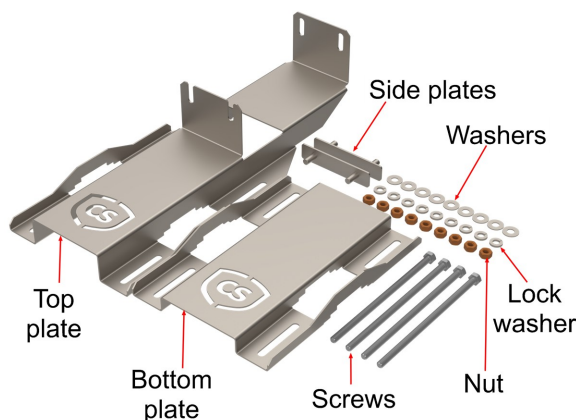
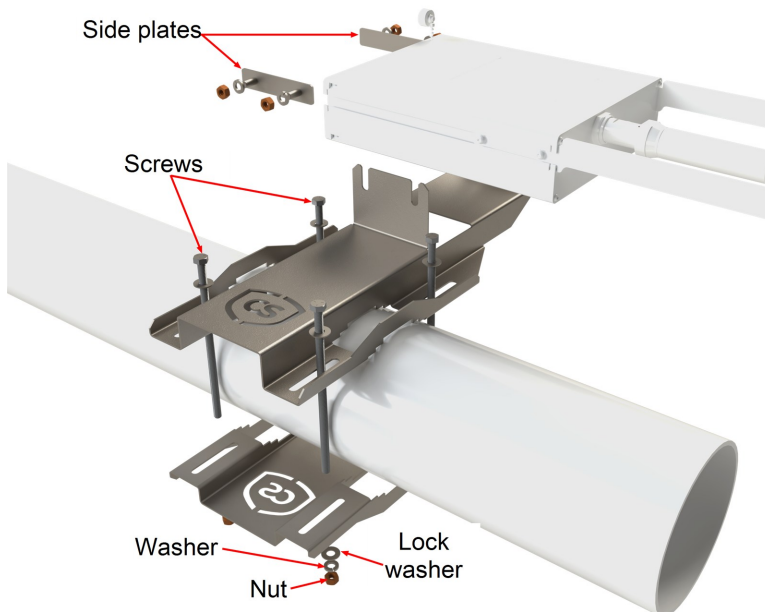

Figure 3-13. Tracker torque tube mounting bracket
Figure 3-14. Exploded view of mounting bracket
2. Secure the bracket to the tracker torque tube by using the four screws, four nuts, eight washers, and eight lock washers (see Figure 3-13 [p. 27] and Figure 3-14 [p. 28]).
3. Slide the side plates on the bracket (see Figure 3-14 [p. 28]).